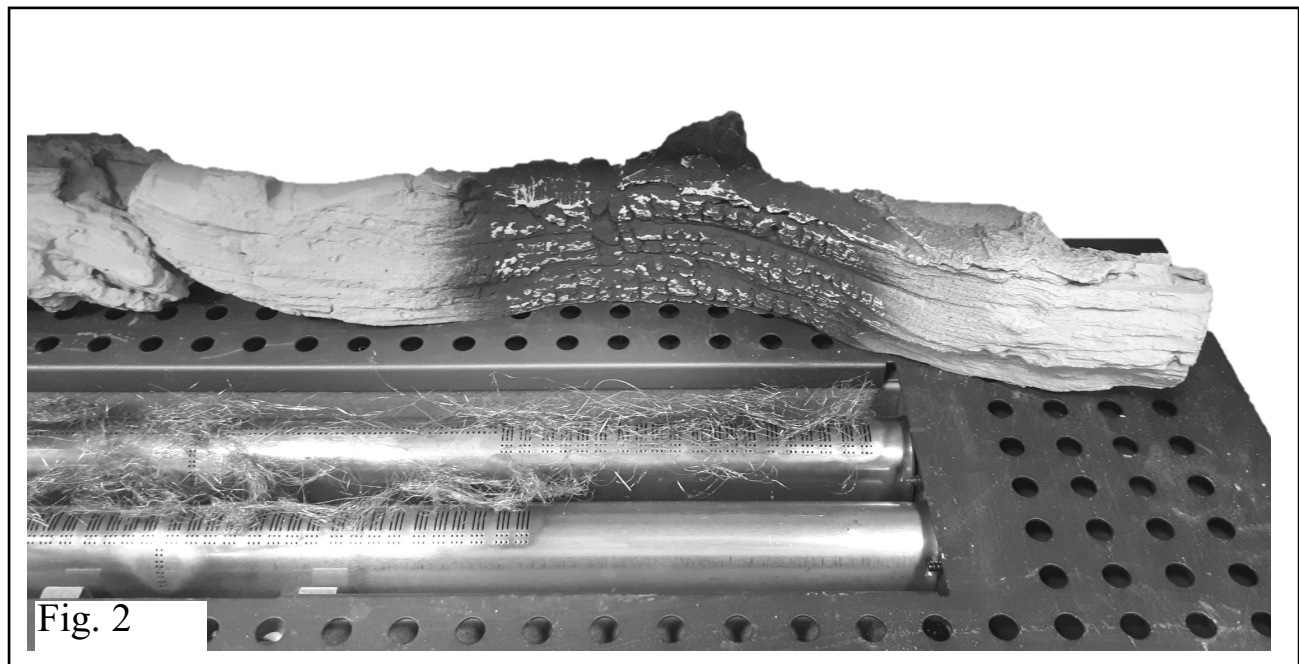

Fig. 2
2. Place Log '2' in position as shown in Fig.2. Log 2 has a flat side to rest on the metal base. Locate the log with its rear touching the back wall surface. The log should rest positioned clear of the burner compartment in front as in Fig. 2 to the RHS of Log 1.